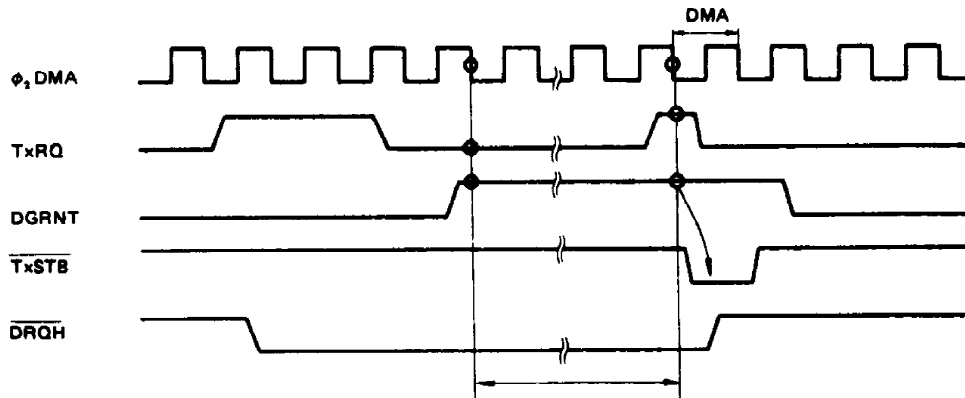

Figure 14 Extraordinary TxRQ Input (1)
- (1) In the case where TxRQ becomes "High", but it is reset to "Low" before DGRNT becomes "High". In this case, the DMAC is in the wait state without sending out TxSTB until TxRQ rises to "High" again. As \overline{DRQH} remains "Low" the MPU is forced to be stopped, and the system is in dead lock state until TxRQ rises to "High" again (Fig. 14).